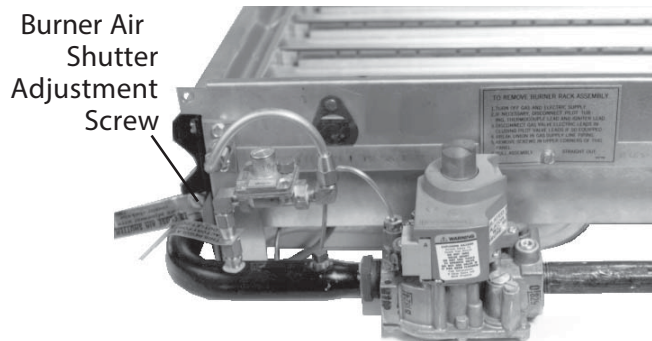

Figure 32. Burner Air Shutter Adjustment Screw
- Air shutters are required on propane gas units but are optional on natural gas units. A slotted burner air adjustment screw on the end manifold bracket (see **Figure 32**) moves the air shutters and adjusts all burners simultaneously. Turn the adjustment screw clockwise to open the air shutter or counterclockwise to close the air shutter.